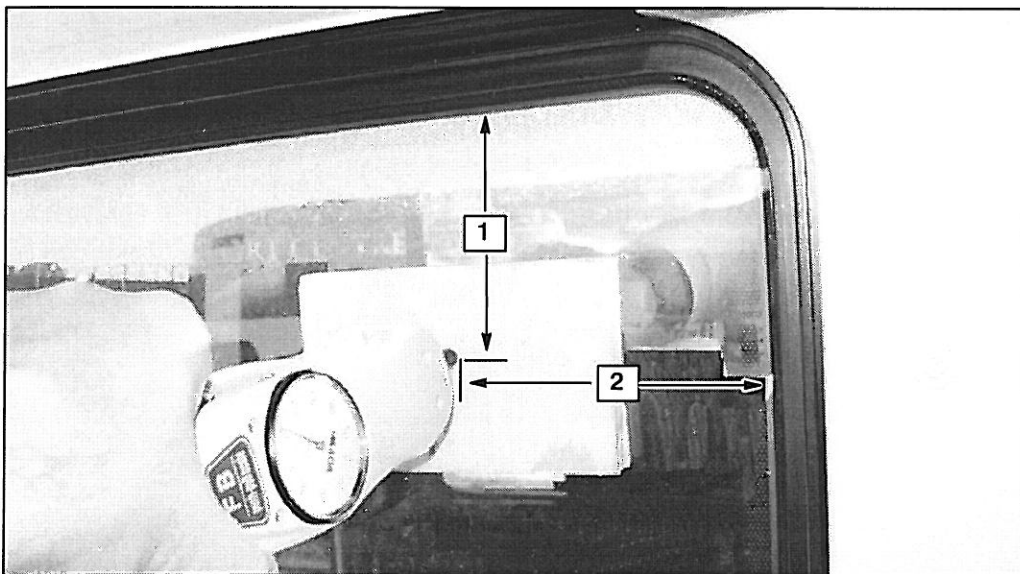

Figure 1.
4. From inside the coach, carefully position a 4.0 x 4.0 x 0.5 inch flat wood block flat against the glass surface, the center of which should be six (6) inches from both edges (as shown in Figure 1). Position a push / pull gauge at the center of the wood block and apply 50 lbs. push force against the glass, perpendicular to the glass surface, to accentuate any partial de – bonding that may exist.